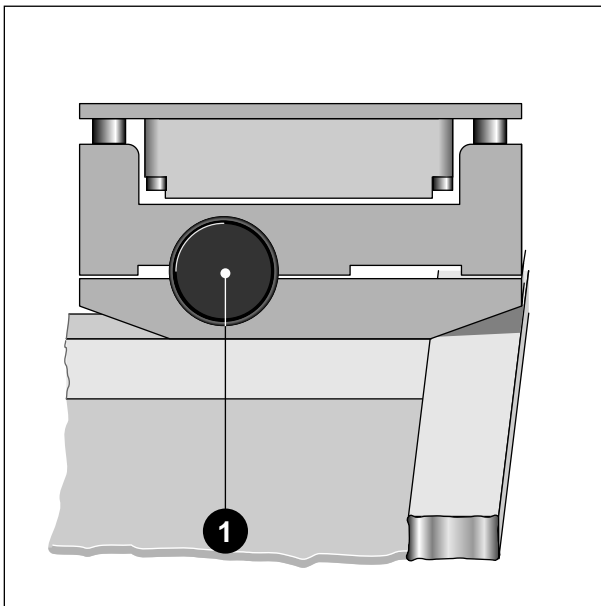

Figure 5-6. Screen clamping cylinder
- \* Loosen the set screws of the 4 screen clamp cylinders (1, Figure 5-6) and position each cylinder as close as possible to the end of the screen frame (Figure 5-6).